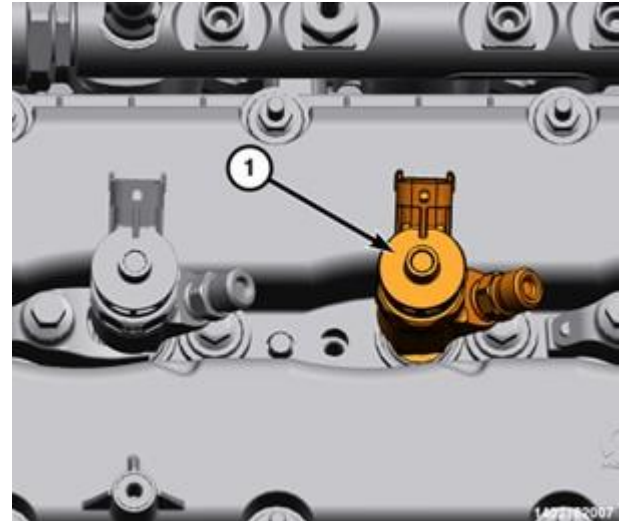

Figure 142 – Fuel Injector Bolt
- 94. Install the fuel injector (1) in the cylinder head (Figure 142).